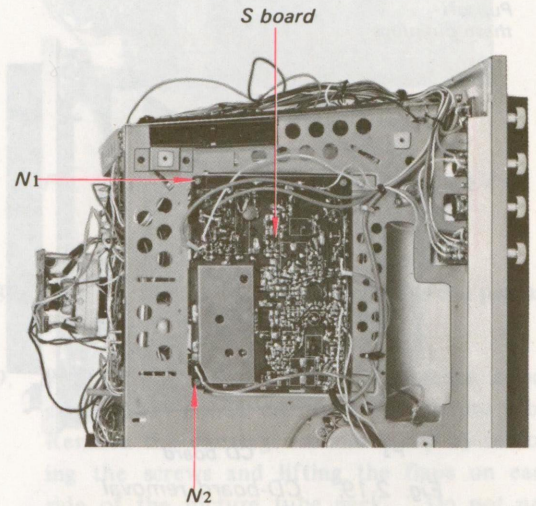

Fig. 2-17. S-board removal
2. Remove the two screws labeled N1-2 in Fig. 2-17.